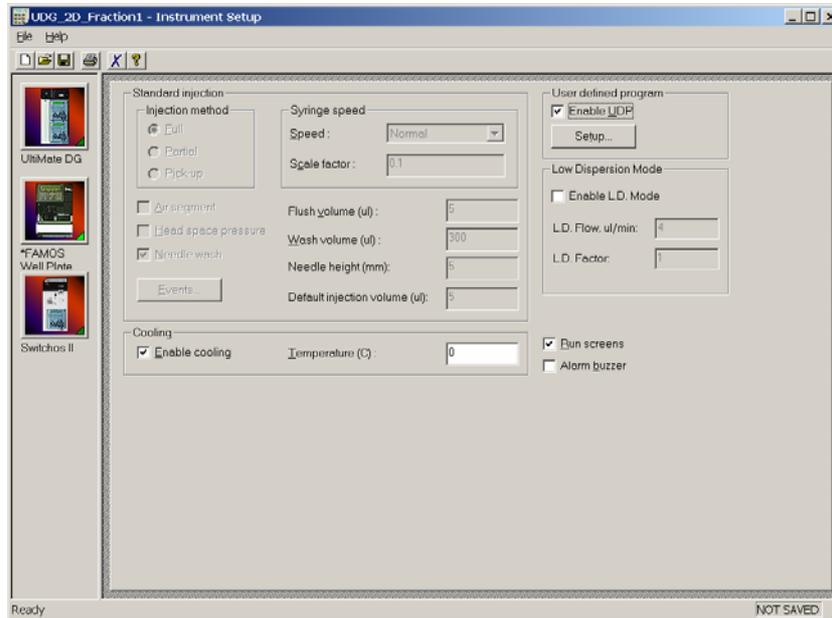

FIGURE 3-10 The User Defined Program Window
- a) Check the 'Enable UDP' option and choose the **Setup** button (FIGURE 3-10).